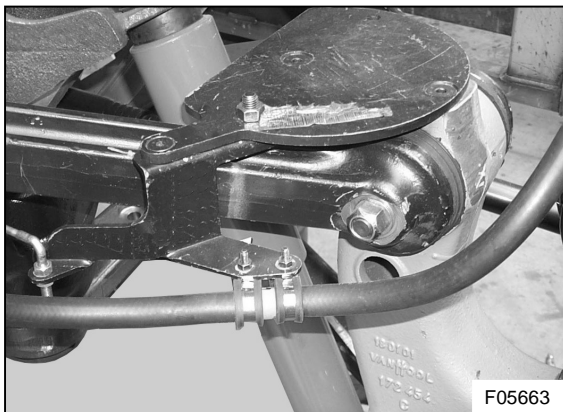

Figure 22: Hose to steering knuckle bracket VH 10675802 installation (round air spring mounting plate)
- Install hose to steering knuckle bracket VH 10675802 in case the coach is equipped with a round air spring mounting plate (installation shown in Figure 22).
- 8) Attach the hose to the steering knuckle bracket using two new clamps VH 637100140 and the recovered M6 bolts and nuts. Make sure the red mark has been positioned between the two clamps (see Figures 22 and 25). Tighten to a torque of 7 ft.lbf (10 Nm).